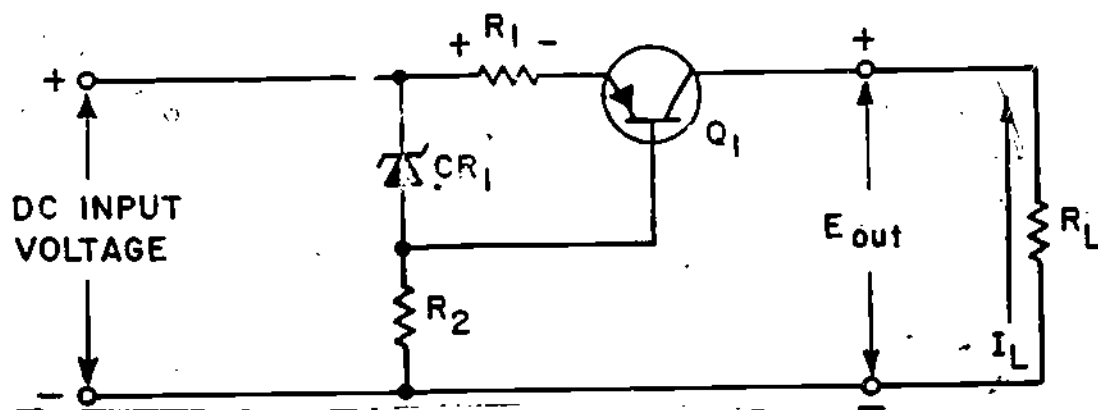

FIGURE 30
38. THIS IS A TEST FRAME. STUDY THE SCHEMATIC SHOWN IN FIGURE 30 AND ANSWER THE QUESTIONS. AFTER YOU COMPLETE THE QUESTIONS COMPARE YOUR ANSWERS WITH THE ANSWERS GIVEN AT THE TOP OF THE PAGE FOLLOWING THE TEST QUESTIONS.